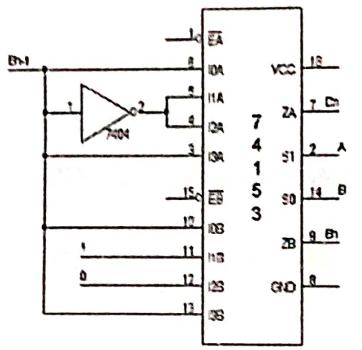

Figure 4: Connection diagram of Full Subtractor using 74153
MUX map for Difference is implemented in A part of MUX IC & MUX map for Borrow is implemented in B part of MUX IC, A & B are select lines as indicated in Figure 4:
6. Data line inputs for FS: Make use of 7404 and create input connections to MUX-A and MUX-B part of IC-74153 as shown in Figure 4.